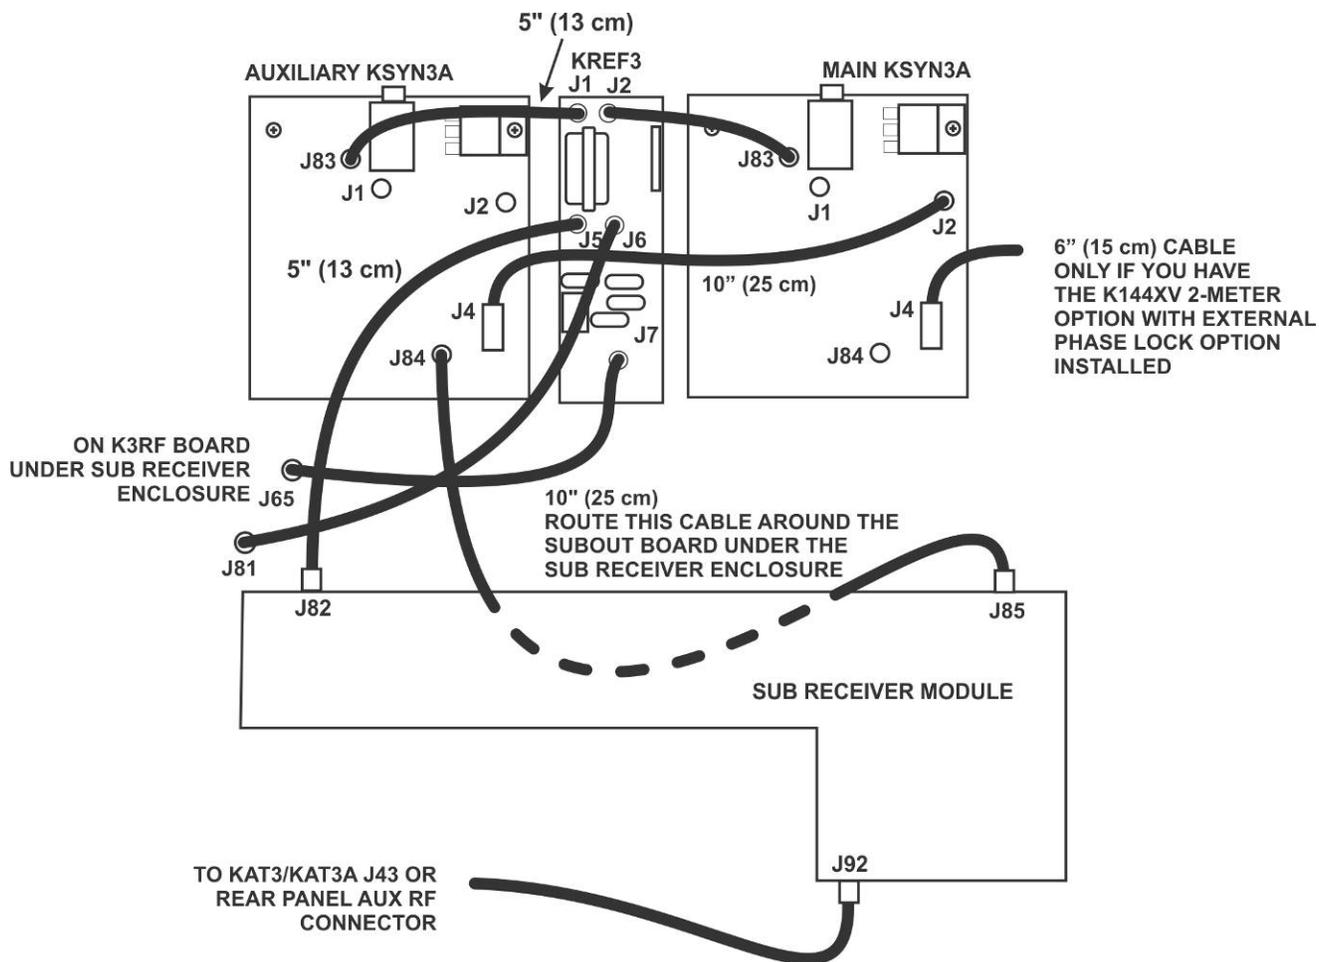

Figure 19. TMP Cable Routing.
- If you have the K144XV 2-meter option with the K3EXREF phase lock option installed, be sure the 6" (15 cm) cable to J4 on the Main KSYN3A board has not pulled loose. (see Figure 19). The other end will be connected to the K144XV module when you reinstall it later.
- Be sure the 10" (25 cm) TMP cable you connected to J4 on the Auxiliary KSYN3A earlier is connected to J2 on the main KSYN3A board (see Figure 19).
- Hold the sub receiver module directly over the K3 and attach the TMP cables to J82 and J85 on the module as shown in Figure 19).
- If you have the K144XV Reference Oscillator Phase Lock option installed connect the cable from J4 on the main synthesizer (see Figure 19) to either REF IN or REF OUT (the connectors are in parallel).